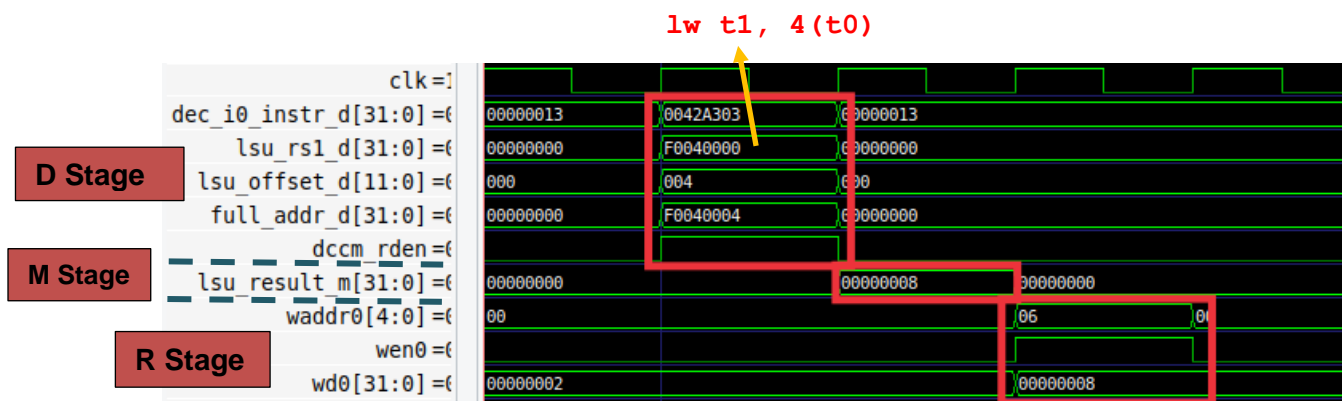
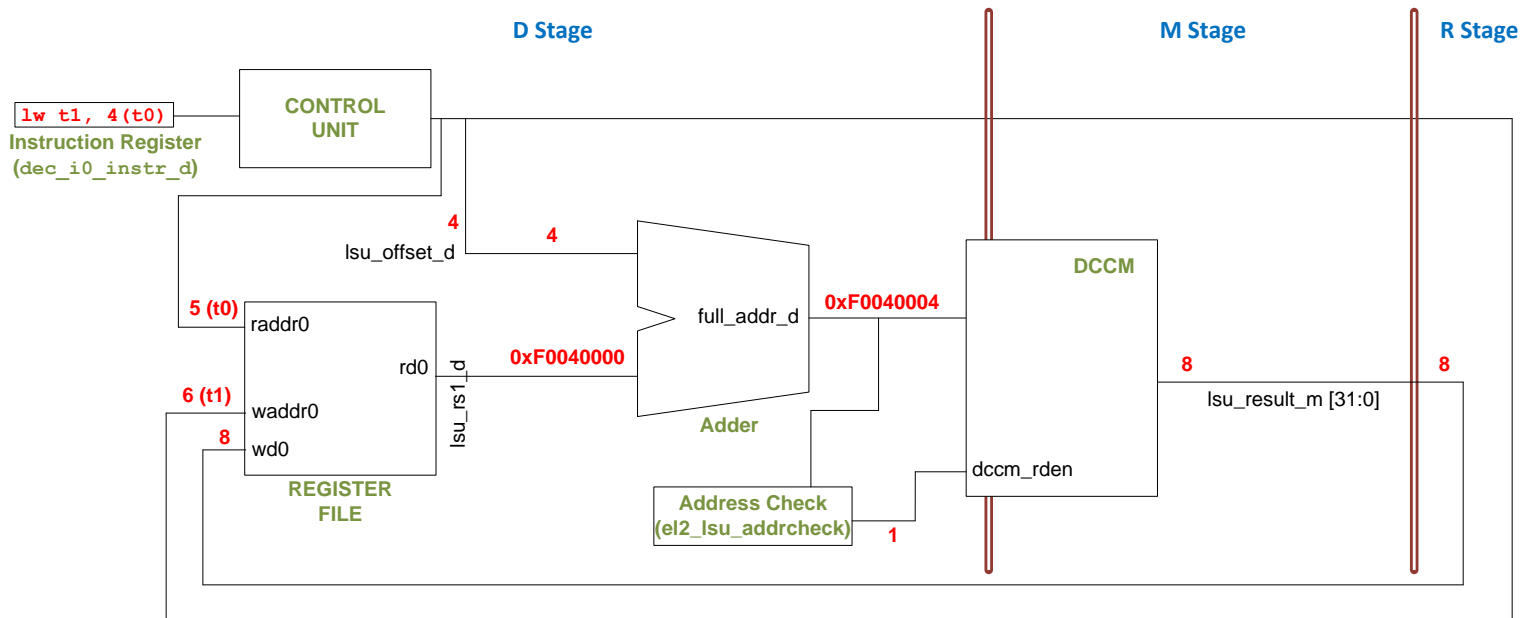

Figure 4. Verilator simulation for example program in Figure 2
Figure 5. High-level view of the `lw` instruction executing in the VeeR EL2 pipeline
Figure 4 shows the execution of the second `lw` instruction for an intermediate iteration of the loop from Figure 2. The signals shown are the ones specified in file: `[RVfpgaBooleanPath]/Labs/Lab13/LW_Instruction_DCCM/commandLine/scriptLoad.tcl`. Note that all iterations are the same: the first load reads the DCCM's first data word (2) into `t1` (x6); the second load reads the DCCM's second data word (8) into the same register (`t1`).
Figure 5 shows a high-level view of the VeeR EL2 pipeline during the execution of the second `lw` instruction. Note that the figure merges the state of the processor in different cycles:
TASK: Replicate the simulation from Figure 4 on your own computer. Follow the steps described in detail in the GSG.
Analyse the waveform from Figure 4 and the diagram from Figure 5 at the same time. The figures include some signals associated with the D, M, and R stages. The values highlighted in red correspond to the second `lw` instruction as it traverses these stages.